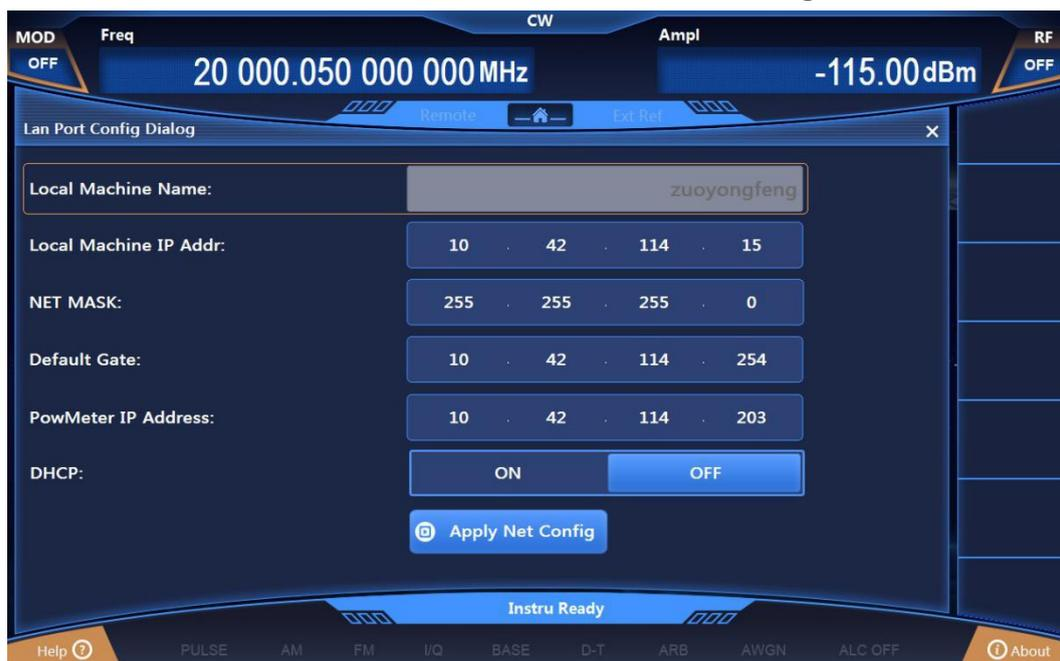

Fig.2.10 LAN Port Configuration
**Step 1: Press the **【System】** key or click the **[System]** function area on the screen to select **[LAN Port]** and enter the **Network Properties Setting** page as shown in Fig.2.10, where the current LAN “Host Name” is displayed.**
The IP address and gateway are preset to be automatically obtained as default before delivery. The IP address, subnet mask and default gateway can be changed manually. The IP address, subnet mask and default gateway can be changed in the dialog shown in Fig.2.10, as detailed in the steps in the above "a) Changing the host name" or by reference to Microsoft Windows 7 help document.